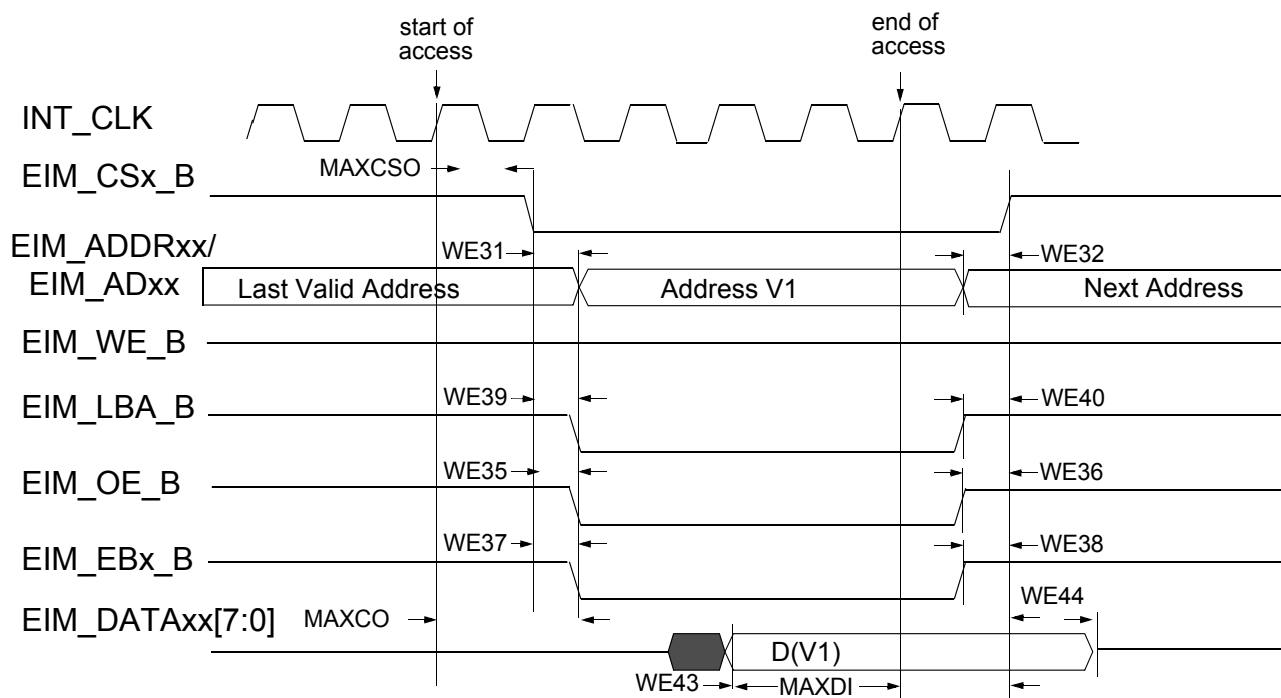

Figure 15. Asynchronous Memory Read Access (RWSC = 5)
Figure 15 through Figure 19, and Table 40 help to determine timing parameters relative to the chip select (CS) state for asynchronous and DTACK EIM accesses with corresponding EIM bit fields and the timing parameters mentioned above.
Asynchronous read & write access length in cycles may vary from what is shown in Figure 15 through Figure 18 as RWSC, OEN and CSN is configured differently. See the *i.MX 6ULL Reference Manual (IMX6ULLRM)* for the EIM programming model.